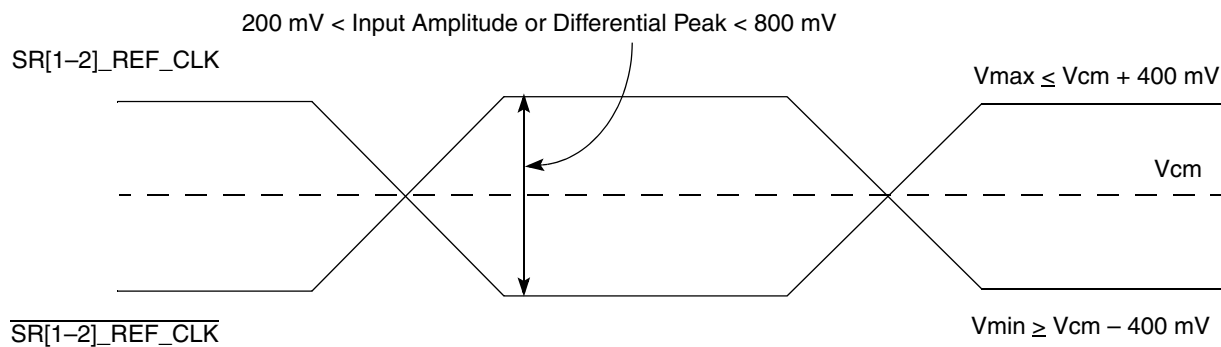

Figure 8. Differential Reference Clock Input DC Requirements (External AC-Coupled)
- For an external AC-coupled connection, there is no common mode voltage requirement for the clock driver. Because the external AC-coupling capacitor blocks the DC-level, the clock driver and the SerDes reference clock receiver operate in different command mode voltages. The SerDes reference clock receiver in this connection scheme has its common mode voltage set to GND_{SXC}. Each signal wire of the differential inputs is allowed to swing below and above the command mode voltage GND_{SXC}. Figure 8 shows the SerDes reference clock input requirement for AC-coupled connection scheme.